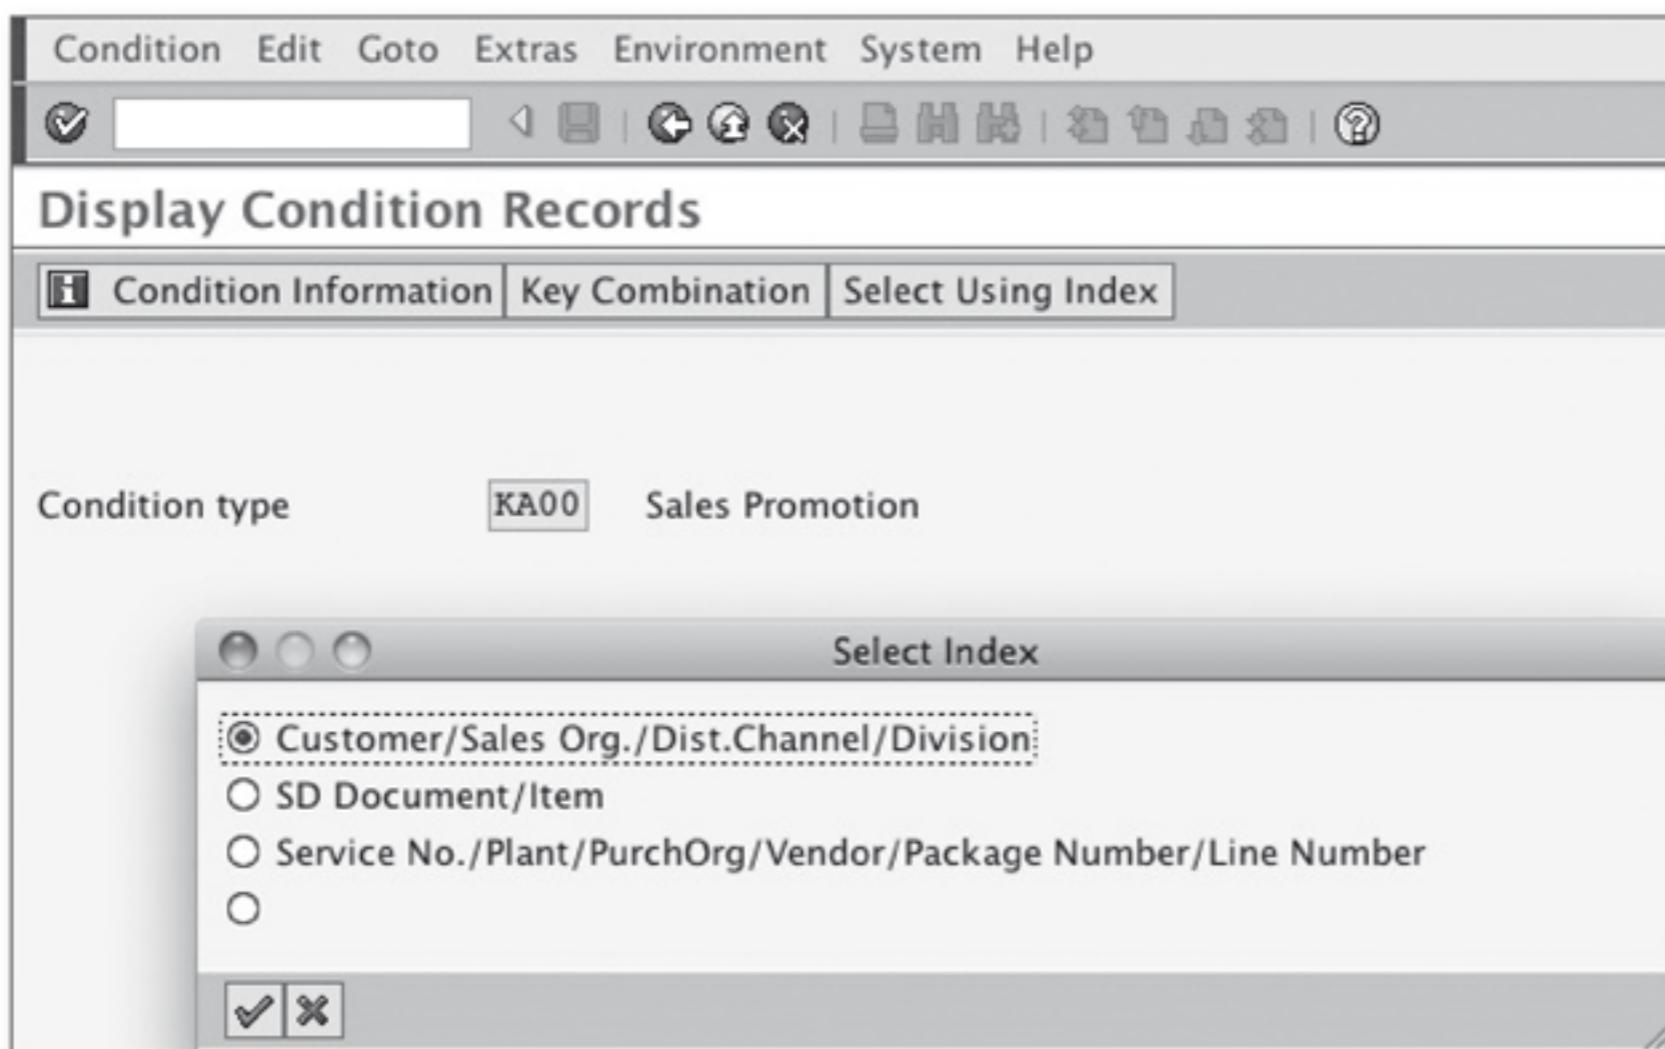

Figure 6.4 Display Condition Records
1. Select the Condition Type that you want to display, and click the Key Combination button to select a key combination, as shown in Figure 6.4.
The screenshot shows the SAP Select Condition Records Using a Condition Index screen. The top menu is identical to Figure 6.4. The main title is 'Select Condition Records Using a Condition Index'. Below the title are several input fields with associated dropdown arrows and 'to' labels: